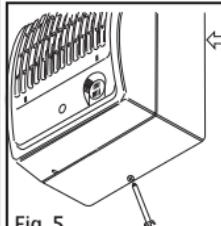

Fig. 5
3. Loosen the fan casing from the back panel by undoing the screw in the base, Fig. 5.